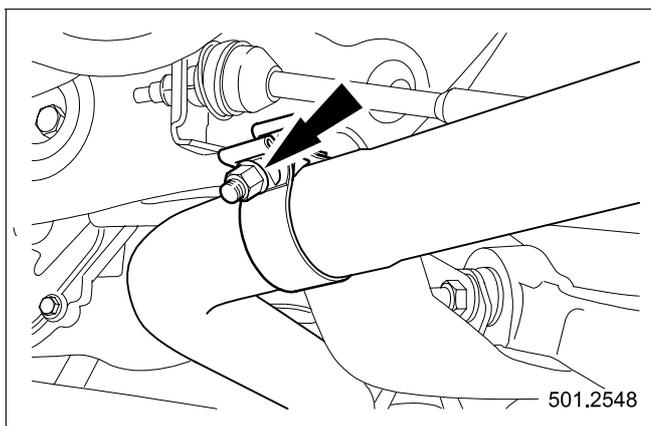

Fig. 17
- 10 Undo but do not remove the rear muffler fixing clamp securing nut. (See Fig. 17)